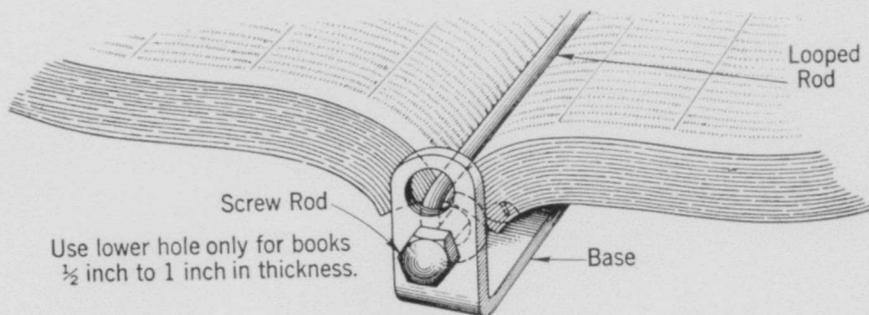

**Fig. 8—Placing Directories in Hangers**
4.01 **Placing directories in hangers** is shown in Fig. 8.